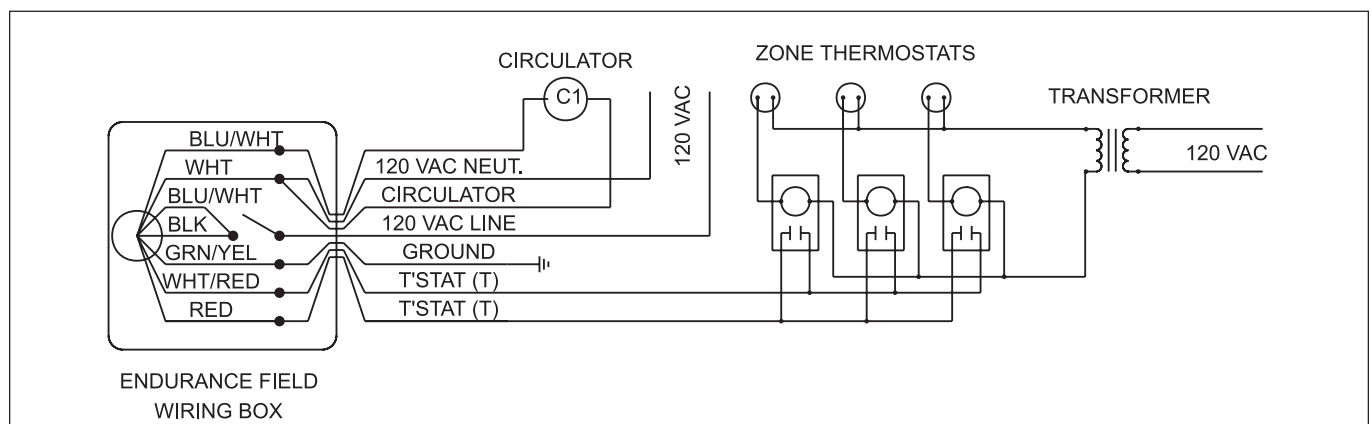

Figure 22. Multiple Zones Utilizing Four Wire Zone Valves with (Dry) End Switches.
3. Zone Valves and Thermostats: Install external 24 volt transformer of sufficient V.A. to power combined load of zone valves. Consult zone valve manufacturer's instructions. Connect circulator (120 volt, 5 amp maximum) between the blue wire and the white wire (neutral) (see Figure 22).